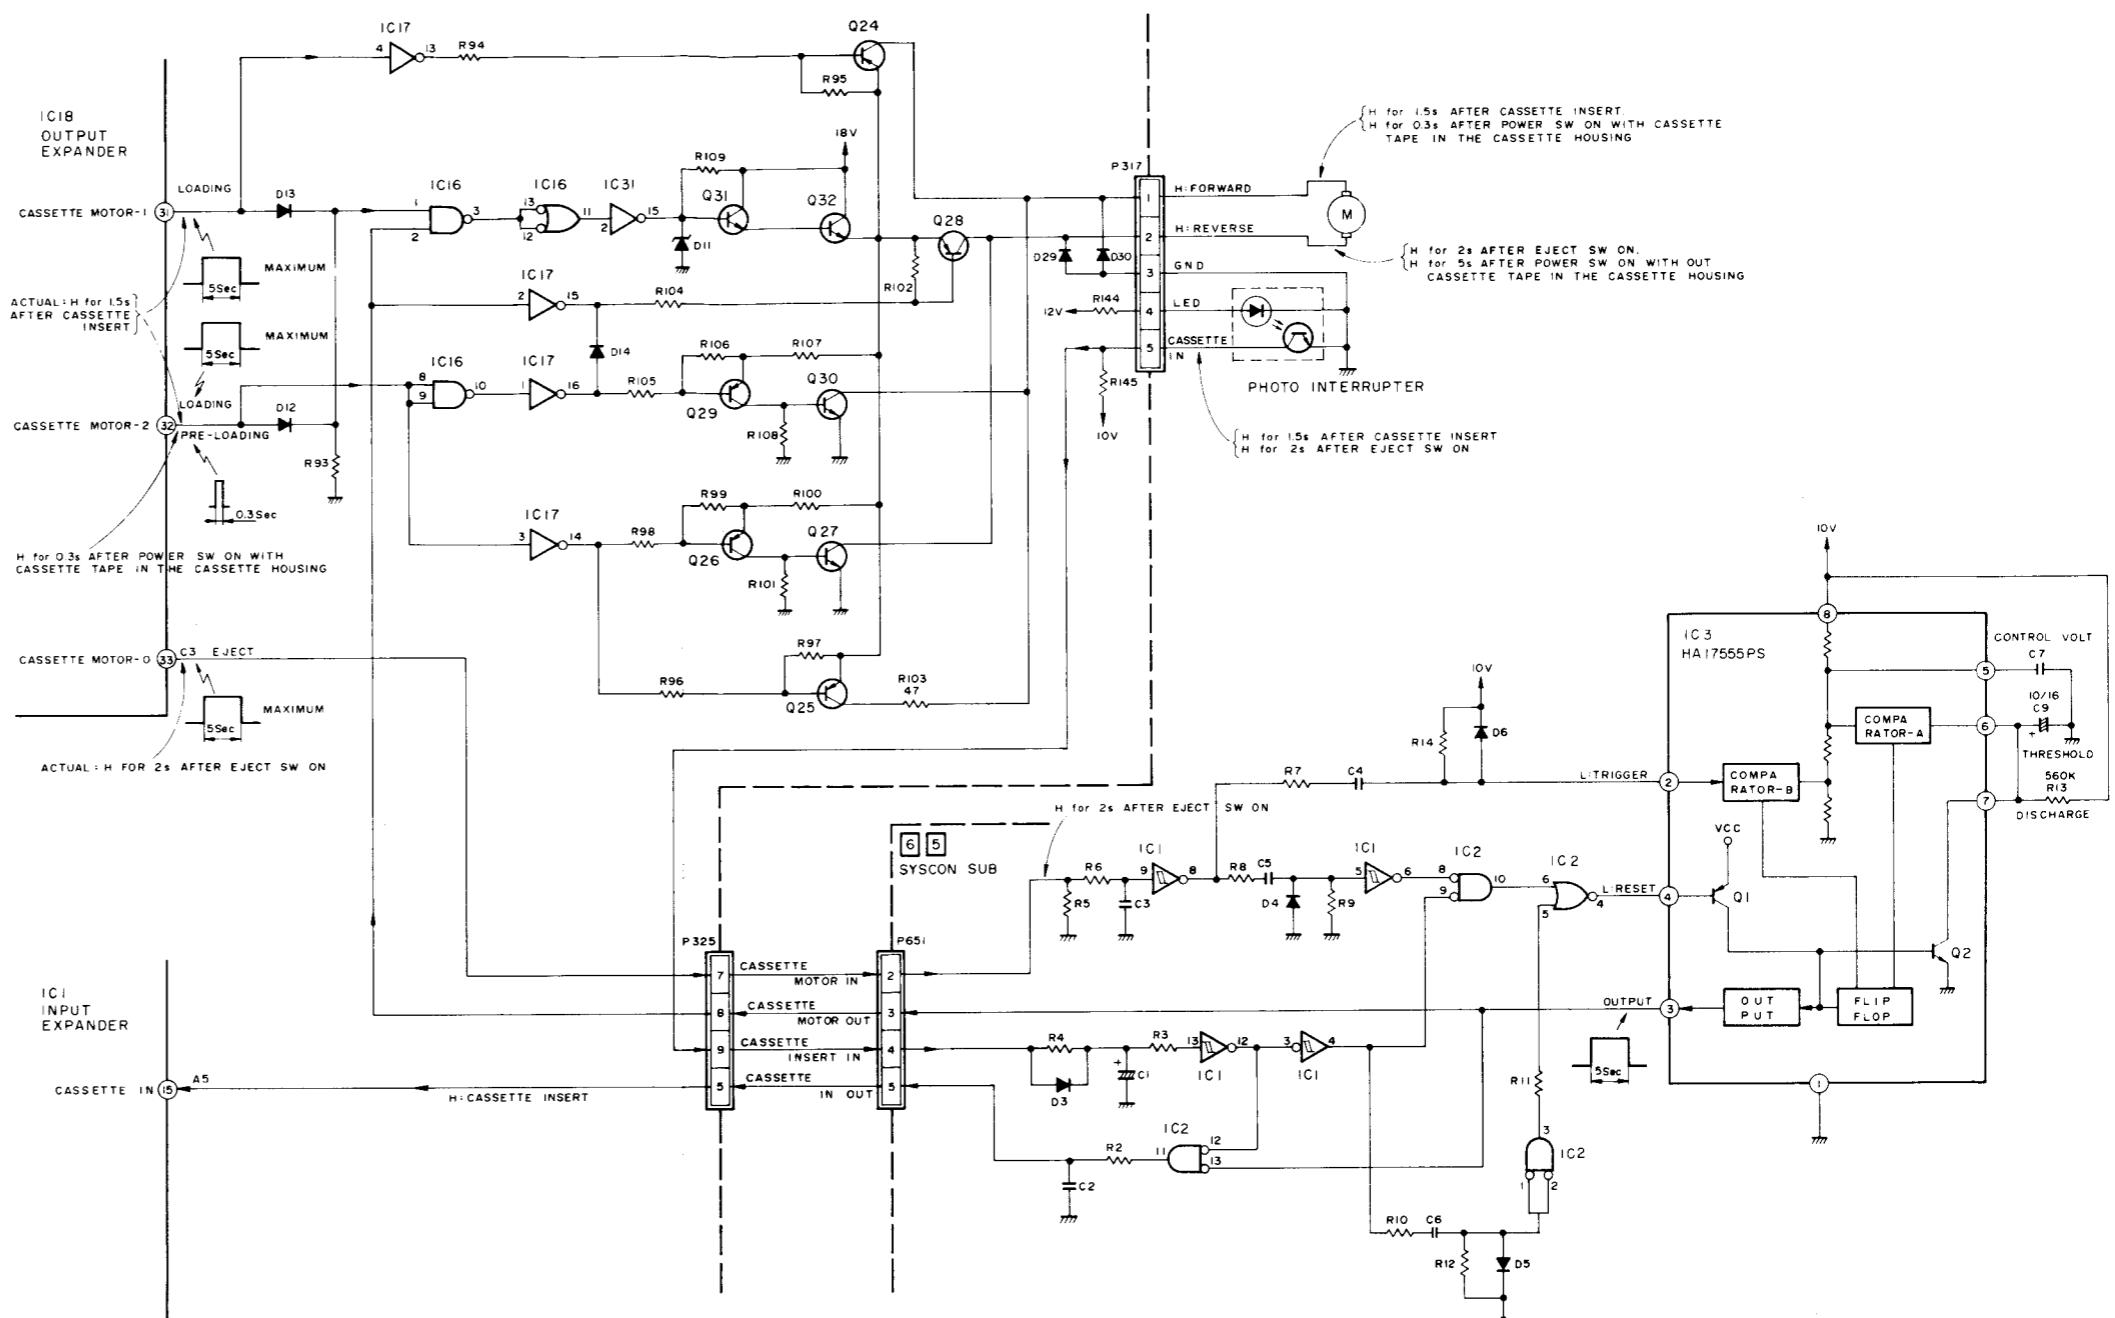

Fig. 3-16 Cassette Motor Drive
- Fig. 3-16 shows a monostable circuit using the HA17555PS. Assure that external capacitor C is discharged initially by transistor Q2 within the IC. A negative input pulse applied to the trigger terminal sets the flipflop and switches Q2 off, yielding a high level output. Capacitor C9 is charge through R13 with the time constant determined by  $T = R13 \times C9$ . When the voltage between the terminals of capacitor C reaches the threshold voltage of comparator A, the flipflop is reset, Q2 turns on and capacitor C discharges. This returns the output to low level. During this interval, again applying the pulse input will not retrigger the monostable.